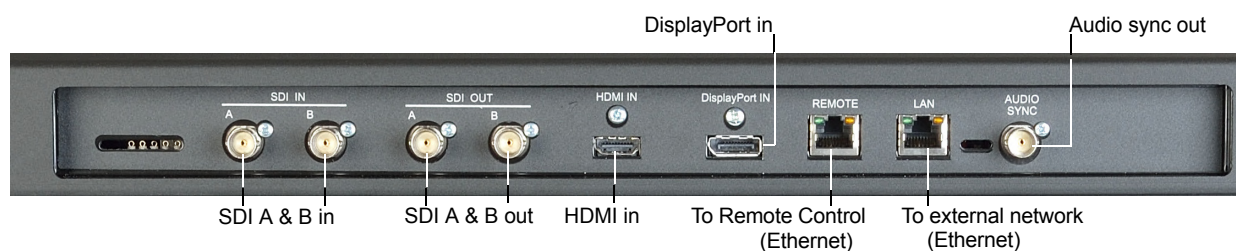

Figure 2-2 Connect Inputs and Outputs
2. Connect your required inputs and outputs on the PRM-4220 rear panel, as shown in Figure 2-2.